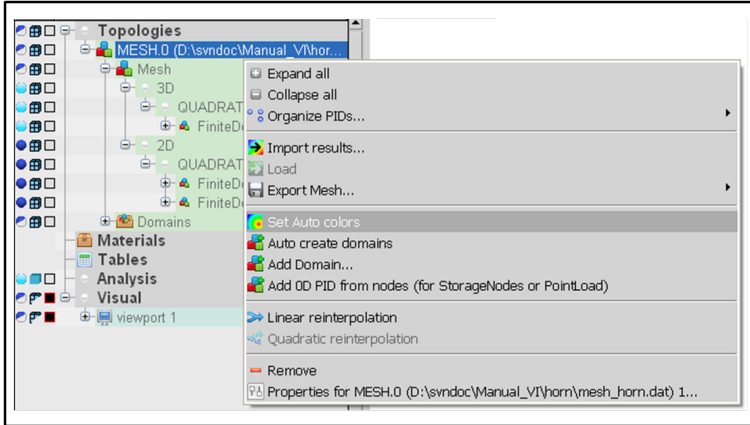

Figure 6.5: Set auto colors for different PID's
- *Set different colors for the different mesh parts. Right-click on the topology's node (MESH.0), and choose "Set auto colors", as shown in Figure 6.5.*